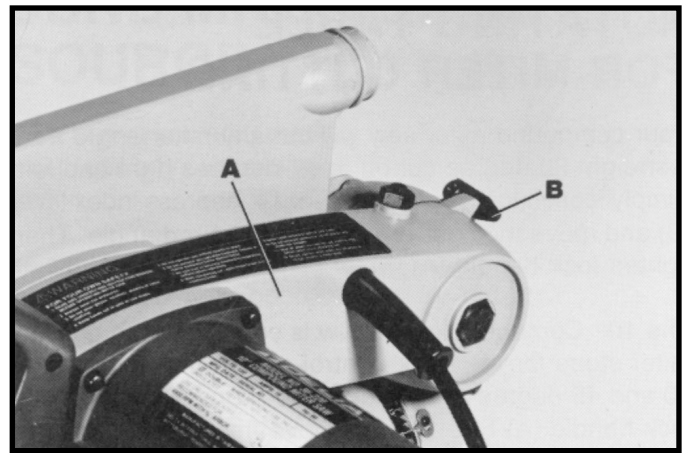

Fig. 18
When transporting the saw, the cutting arm should always be locked in the down position. This can be accomplished by lowering the cutting arm (A) Fig. 18, and moving the locking lever (B) to the locked position, as shown. **IMPORTANT: NEVER CARRY THE COMPOUND MITER SAW BY THE SWITCH HANDLE, CUTTING ARM OR TABLE CONTROL HANDLE. THIS MAY CAUSE MISALIGNMENT. ALWAYS LIFT THE MACHINE BY THE BASE.**